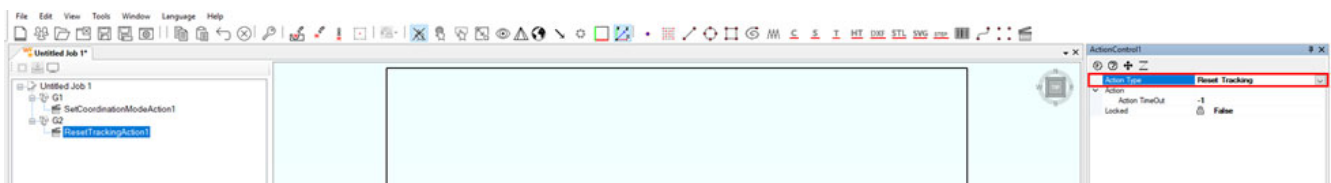

Figure 319: Reset Tracking Action Control
5. Within Group 2, create an Action Control and configure it to be of "Reset Tracking" type. See Figure 319 (below).